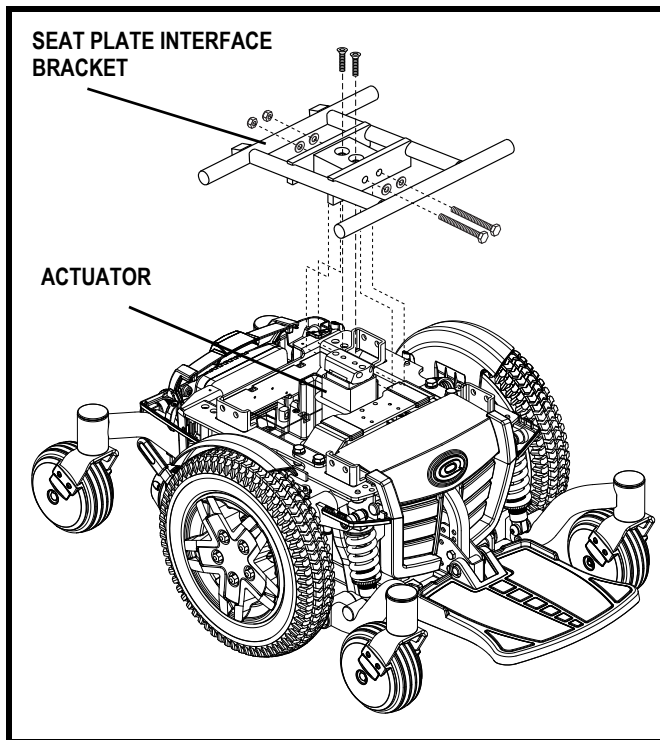

Figure 10. Power Elevating Seat Actuator
1. Place the seat plate interface bracket onto the actuator. See figure 10.